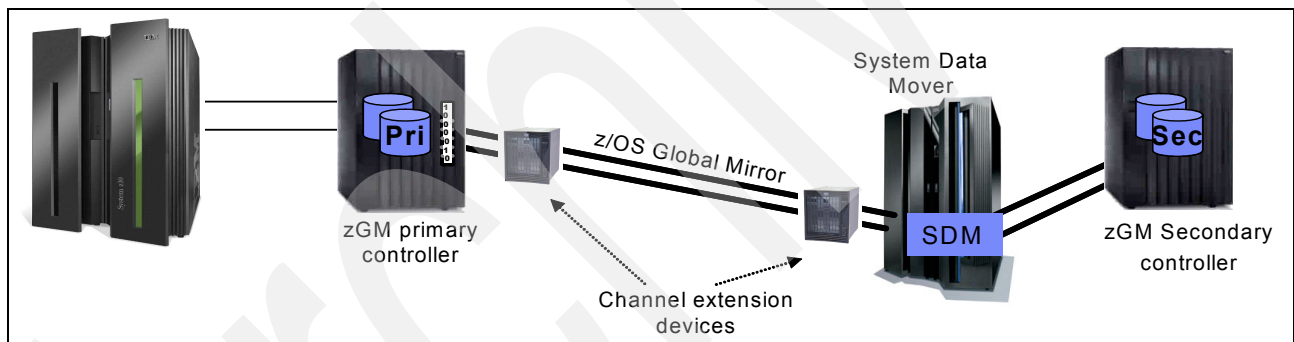

Figure 16-3 Channel extenders in a z/OS Global Mirror implementation
The enhancement has been implemented on the standard FICON architecture (FC-SB-3) layer with a new protocol for “persistent” Information Unit (IU) pacing. This has been achieved for the DS8700 z/OS Global Mirror (XRC) SDM “Read Record Set” (RRS) data transfer from a DS8700 to the SDM host address space. The control units that support the Extended Distance FICON feature are able to increase the pacing count. The pacing count is the number of IUs that are “in flight” from a channel to a control unit. Standard FICON supports Information Units pacing of 16 IUs in flight. Extended Distance FICON now extends the IU pacing for the RRS CCW Chain to permit 255 IUs in flight without waiting for an acknowledgement from the control unit, eliminating handshakes between channel and control unit. This support allows the channel to remember the last pacing information and use this information for subsequent operations to avoid performance degradation at the start of a new I/O operation. Figure 16-3 shows the placement of channel extenders in a z/OS Global Mirror implementation.